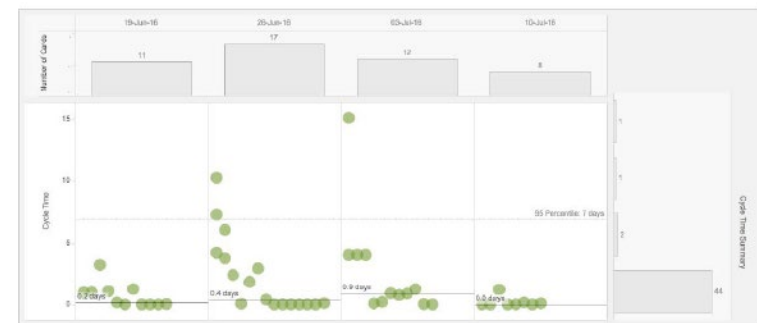

Figure 8. Lead Time scatter plot showing probability of completing work.
A scatterplot view of Cycle Time (CT) with percentile lines (as shown in Figure 8) shows the variability in the time it takes to complete work. Here, we see that Cycle Time ranges from less than one day to 14 days. The horizontal 95 Percentile marker reveals that 95% of the work is completed in less than 7 days. This helps us to be more predictable. When people ask, “When will it be done?” the Cycle Time (and/or Lead Time) chart comes to the rescue. Given this data, we can say with a high level of confidence that 95% of these types of work requests will be completed within 7 days. Probabilistic data is incredibly useful and powerful to improve decisions. The capability to forecast how long tasks will take helps with prioritization.